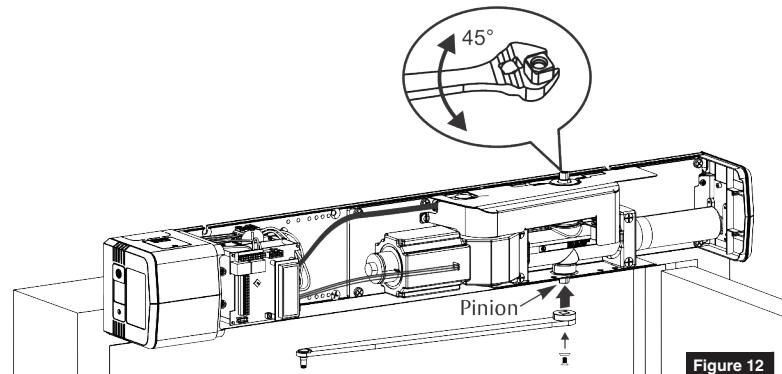

Figure 12
2. Using an adjustable wrench, rotate top pinion 45 degrees toward door hinge. You will feel resistance from spring. (Figure 12)
3. While holding pinion at 45 degrees, slide arm on bottom pinion parallel to frame as shown. (Figure 12)
4. Secure arm to pinion with 1/4-20 x 1/2" screw and countersunk patch washer. (Figure 12)